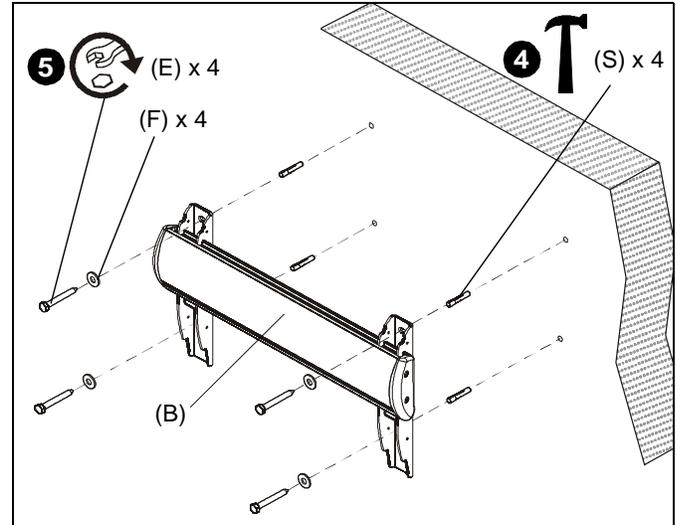

Figure 2
4. Install four concrete anchors (S) into drilled holes. (See Figure 2)
5. Install four 5/16 x 2-1/2" hex head lag screws (E) through four 5/16" washers (F), outer holes of mounting bracket (B) and into concrete anchors (S). (See Figure 2)